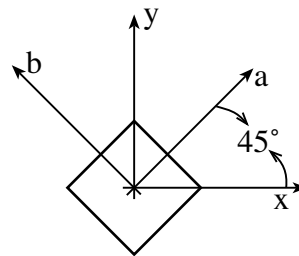

Figure 2
- B. Display results from A above on the inclined element below in Fig. 2.